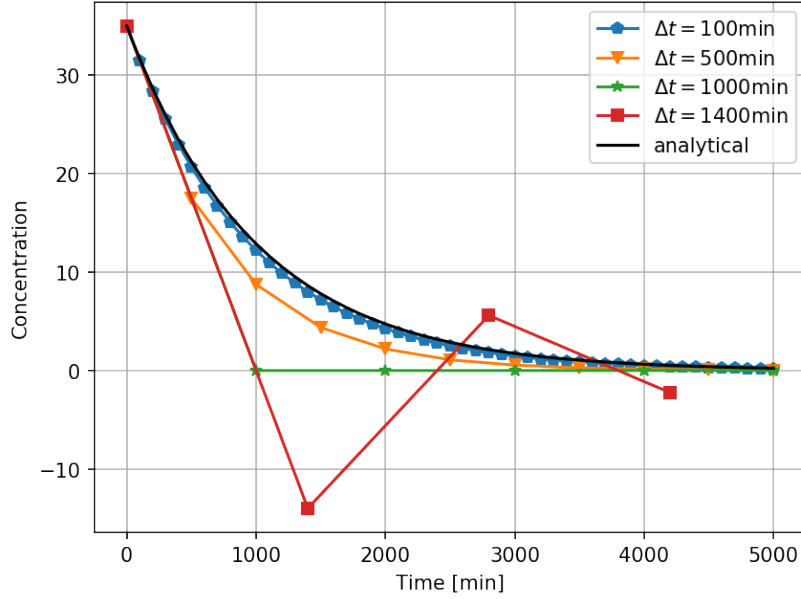

Figure 2: The concentration in the tank for different step size Δt .
We have implemented equation (7), and in figure 2 the result is shown.